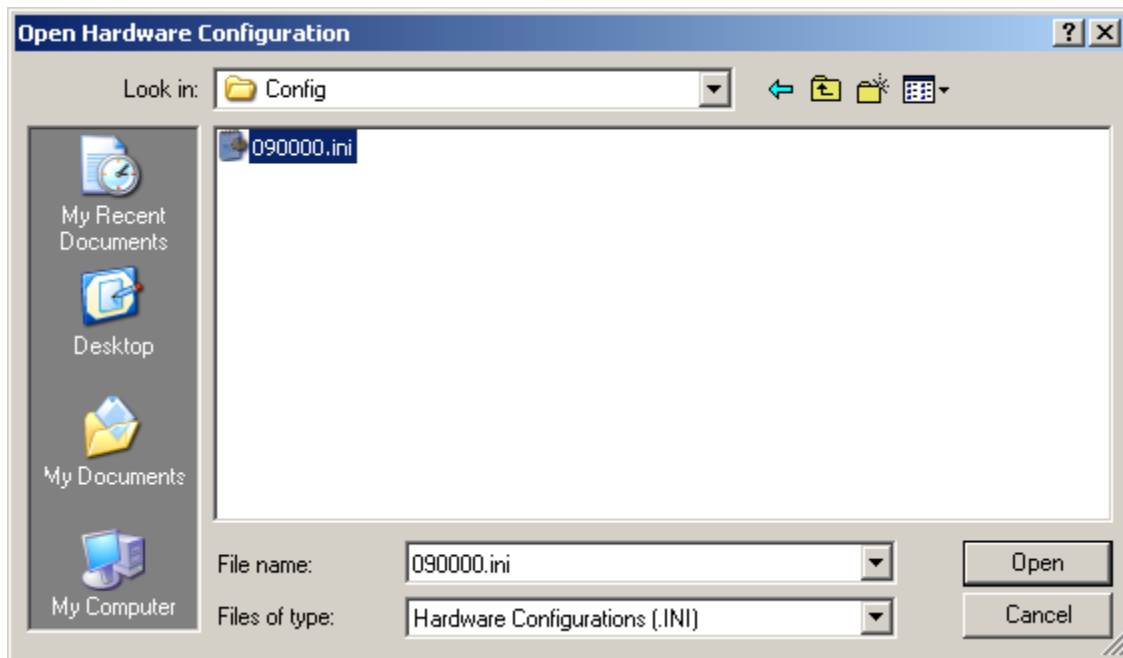

Figure 2 - Select Hardware Configuration
2. **Open Hardware Configuration** – Brings open the selection dialog shown in Figure 2 to select a Hardware Configuration. Selecting “Yes” to the prompt reading “Make this the default hardware configuration” will replace the current default with the most recently selected file.